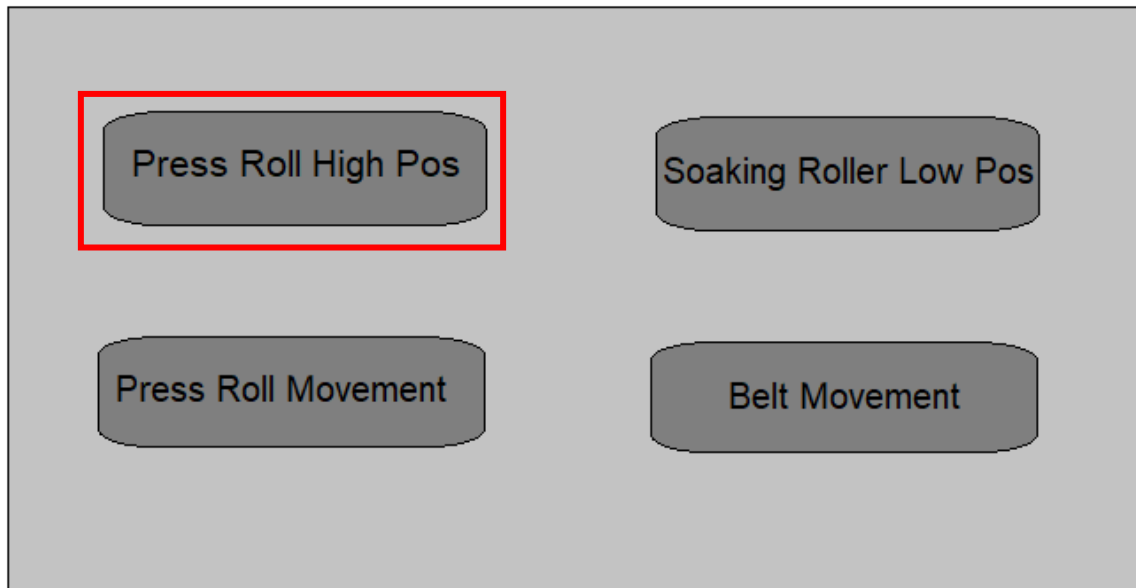

Fig 16: Adjusting the Pressure Roller
Step 8: Move the belt using the **Belt Movement** option available on the Back-HMI (Refer to Fig 16) until the fabric reached to the print origin.